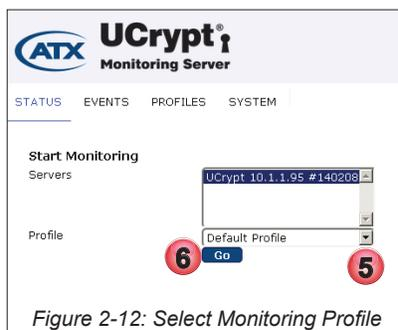

Figure 2-12: Select Monitoring Profile
5. Use the **Profile** dropdown menu, Figure 2-12, to select the **Monitoring Profile** to be applied to this Device (or group of Devices if more than one was selected). There are default Profiles available for each type of Device; UCrypt, DVIS, DigiVu and you may create your own custom profiles for each Device type to select from.